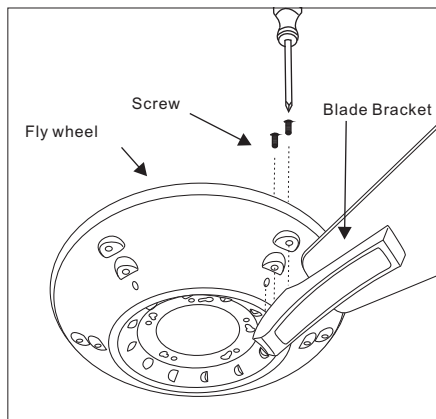

Figure 16
3. Fasten the blade assemblies to fly wheel with the fly wheel hardware provided. (Figure 16)